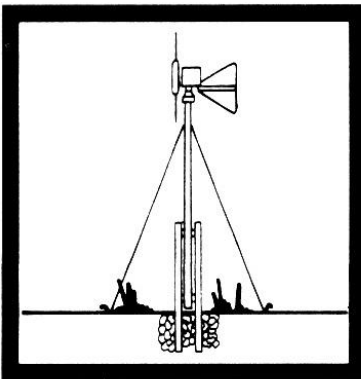

figure 2a
- Pivot pole supported by guy ropes (Figure 2a)